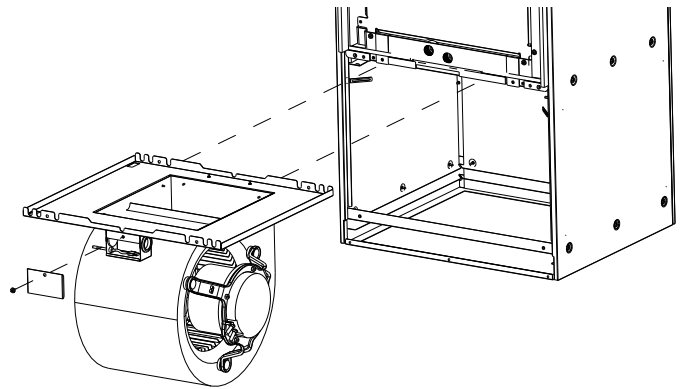

Fig. 12
3. Remove the door that covers the small enclosure attached to the fan assembly (Fig.12). Unplug the motor and route the wire harness out of the enclosure.
4. Remove the (2) screws that secure the fan assembly and slide out.